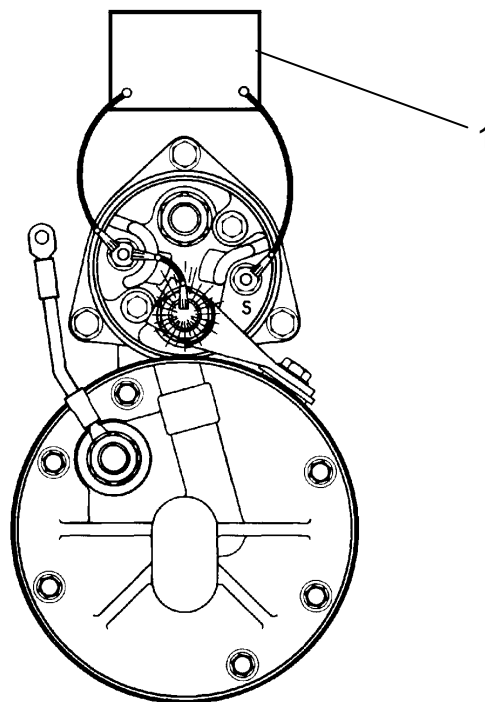

Fig. 8.19. Checking Pinion Clearance Circuit
1. Make connections as shown in Fig. 8.19.
2. **Momentarily** flash a jumper lead from ground return terminal to terminal MTR (Fig. 8.19). The drive will now shift into cranking position and remain so until the battery is disconnected.